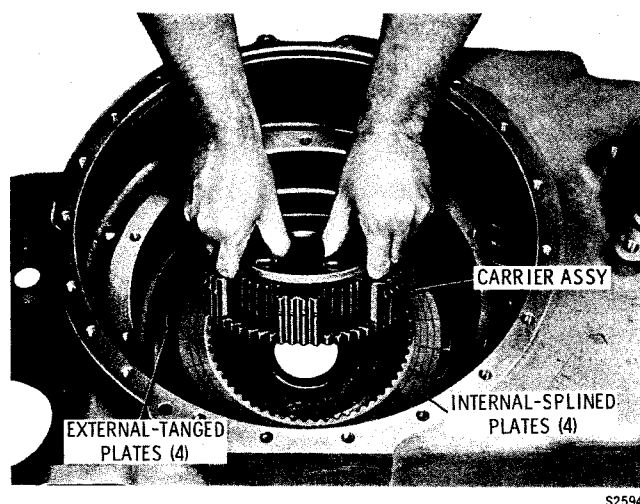

Fig. 7-14. Installing reverse planetary carrier assembly
(2) Beginning with an external-tanged clutch plate, alternately install four external-tanged clutch plates and four internal-splined clutch plates onto the reverse piston (fig. 7-14). Install the reverse planetary carrier assembly, long splines first, into the reverse plates.